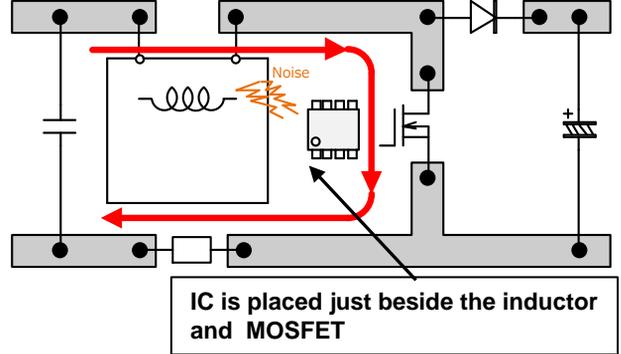

Fig.39 Bad layout example (2)
- IC is placed just beside the inductor, MOSFET or diode. (Fig. 39)